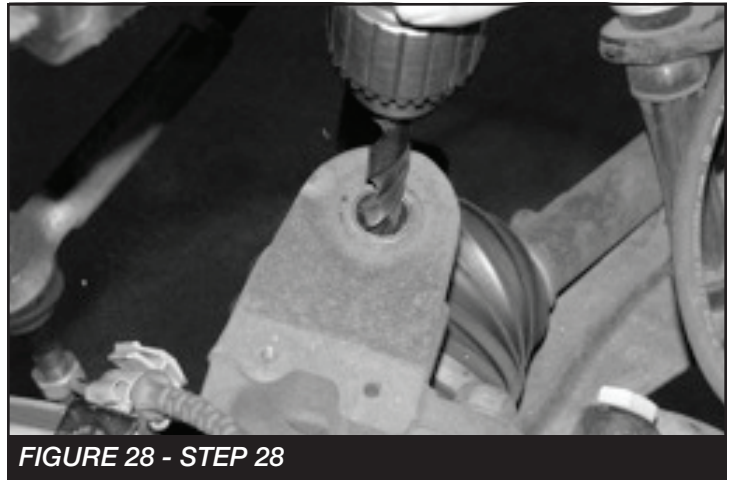

FIGURE 28 - STEP 28
28. Using a 1/2" drill, chase out the end of the upper ball joint taper on the spindle. **SEE FIGURE 28**